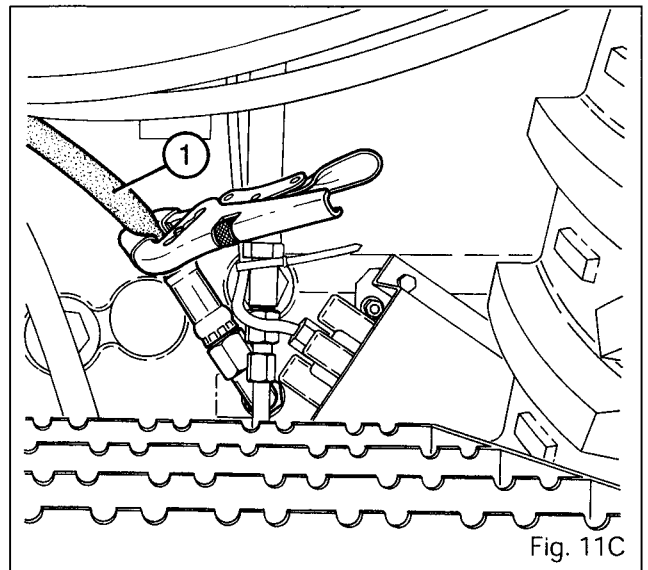

Fig. 11C
- Fig. 11C: Use the same method and correctly identify the return hose (1) located to the front left-hand side of the gearbox (closed centre hydraulic circuit).